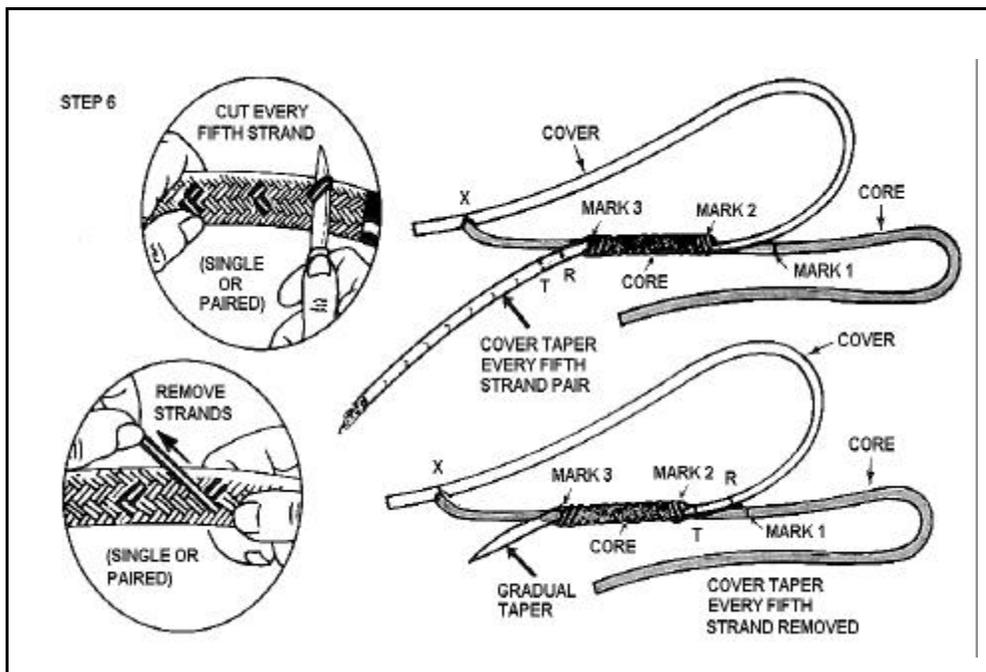

Figure 12-57. Performing the Taper
- STEP 6 -- Performing the taper.** Make sure tape is removed from cover end. Starting with the last marked pair of cover strands toward the end, cut and pull them completely out (see Figure 12-57 insert). Cut and remove next marked strands and continue with each right and left marked strands until you reach point T. DO NOT cut beyond this point (see Figure 12-57 insert). The result should be a gradual taper ending in a point. Very carefully pull cover back through core until point T emerges from Mark 2 of core.